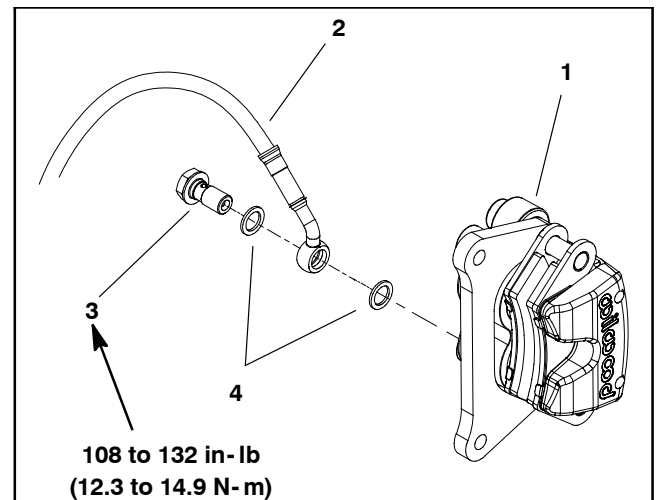

Figure 7
4. Disconnect brake line from caliper (Fig. 7):
- C. Carefully separate brake line from caliper. Locate and retrieve two (2) banjo washers from sides of brake line fitting.
5. Remove two (2) flange head screws that secure the brake caliper to the machine.
2. Align caliper with mounting holes. Secure caliper with two (2) flange head screws. Torque screws from **35 to 40 ft-lb (48 to 55 N-m)**.
3. Connect brake line to caliper (Fig. 7):